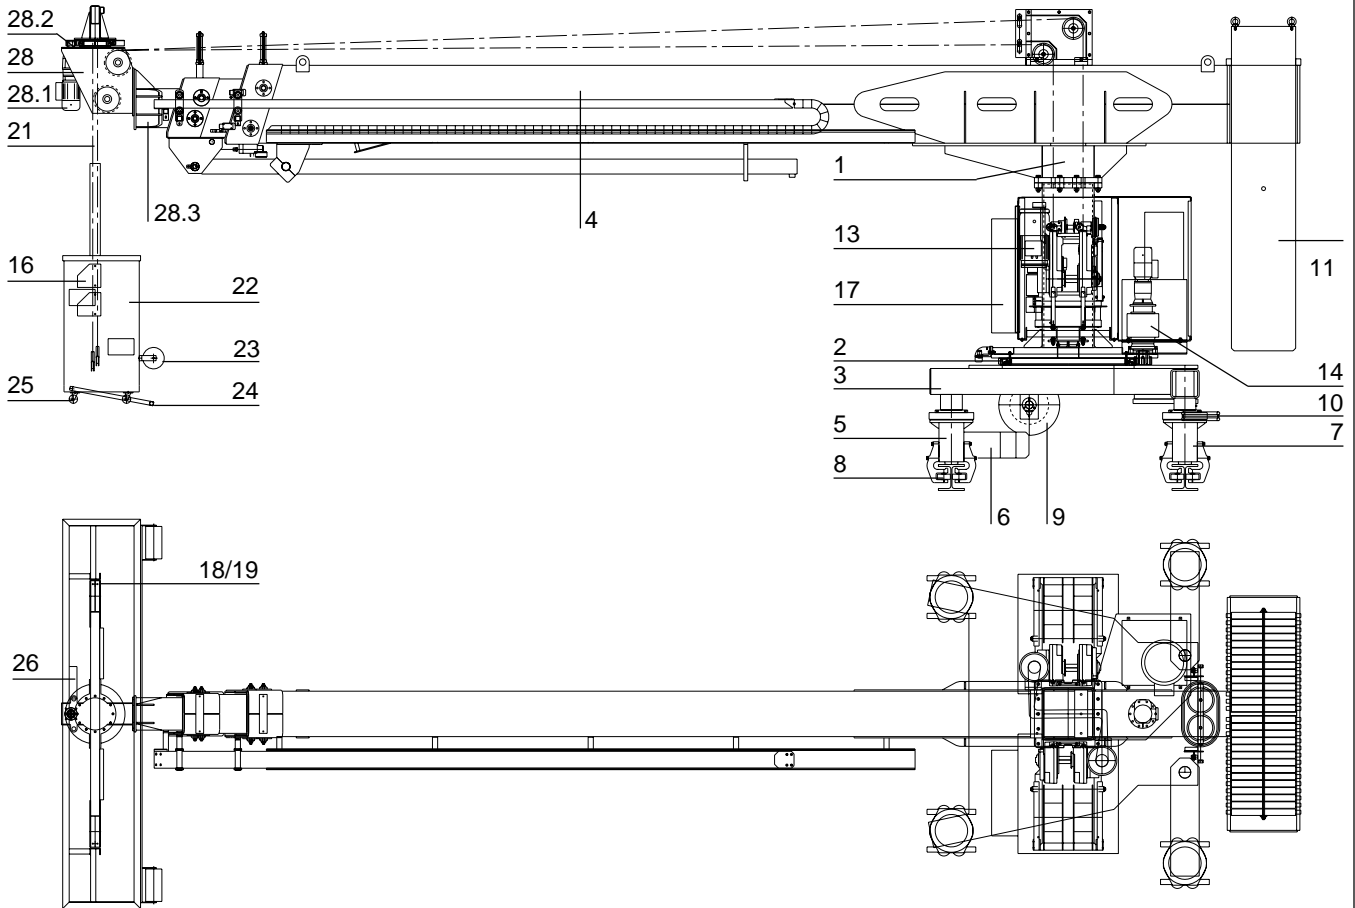

Fig. 3
5. MAIN COMPONENTS OF A SCORPIO MACHINE (see figure 3)